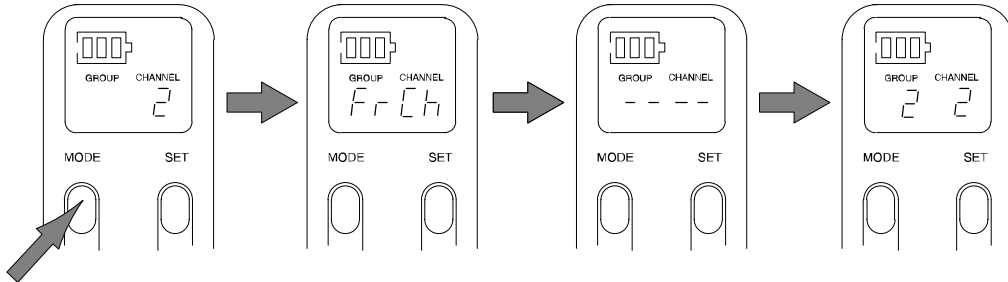

FIGURE 28
- Press the MODE button again to select the new Channel setting. "FrCh" will appear briefly on the display, indicating that the frequency has changed. Then the new Group and Channel settings will appear. Refer to Figure 28.